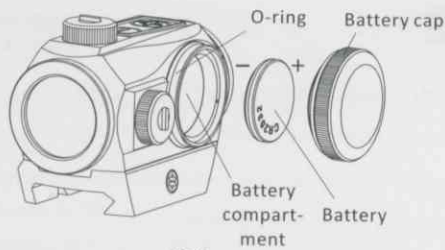

Fig 3
3. Please see the Fig 3 for battery installation and replacement:
- 2) Insert the battery into the battery compartment with the correctly marked polarities "+" "-". See Fig3. Properly dispose the depleted battery.